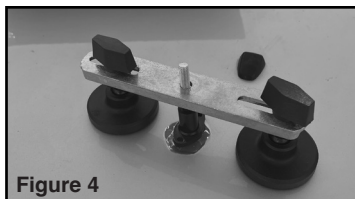

Figure 4
4. Place Cross Bar (5) over Pull Tab, setting Adjusters (6) to desired length. See figure 4. Thread Wing Nut (7) onto the end of the Pull Tab. Continue to twist Wing Nut until the dent is raised. Stop when the dent returns to normal surface level. See figure 5.
5. Unthread the Wing Nut and remove Cross Bar and Pull Tab from the surface. Apply two drops of isopropyl alcohol (not included) to the spot of dried glue. Use the plastic Scraper (8) to peel off the softened glue patch.